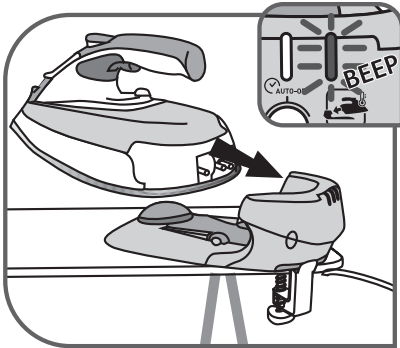

Fig. 14
- The flashing red light and beep sounds after around 30s when the iron is not on its base: the iron must be replaced on the base for recharging – **fig.14**.